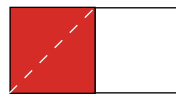
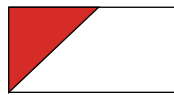

Fig. 13
Fig. 14
19. Place (1) 2" Fabric E square on the left side of (1) 2" x 3 ½" Fabric F strip, right sides together (Fig. 13). Sew across the diagonal of the square from the upper right corner to the lower left corner (Fig. 13). Flip open the triangle formed and press (Fig. 14). Trim away the excess fabric from behind the triangle, leaving a ¼" seam allowance.